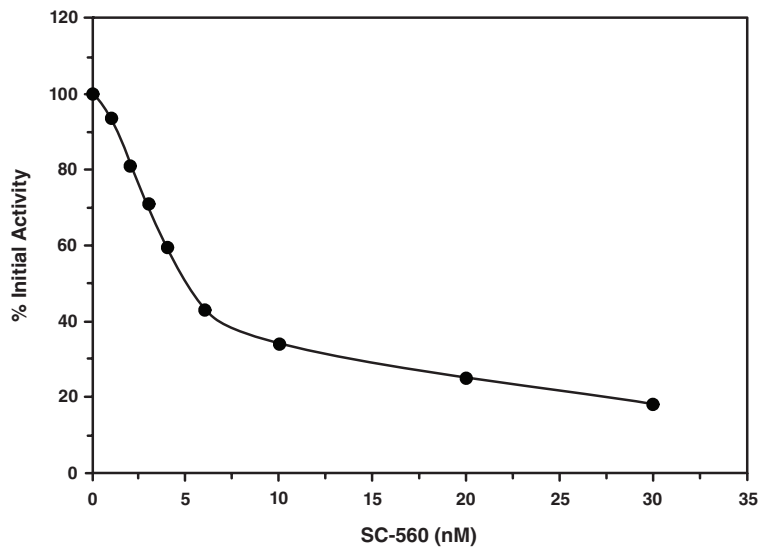

Figure 3. Inhibition of ovine COX-1 by SC-560
4. Graph either the Percent Inhibition or Percent Initial Activity as a function of the inhibitor concentration to determine the IC50 value (concentration at which there was 50% inhibition). Examples of COX-1 and COX-2 inhibition by SC-560 and DuP-697, respectively are shown in Figures 3 and 4 (see pages 14 and 15, respectively).